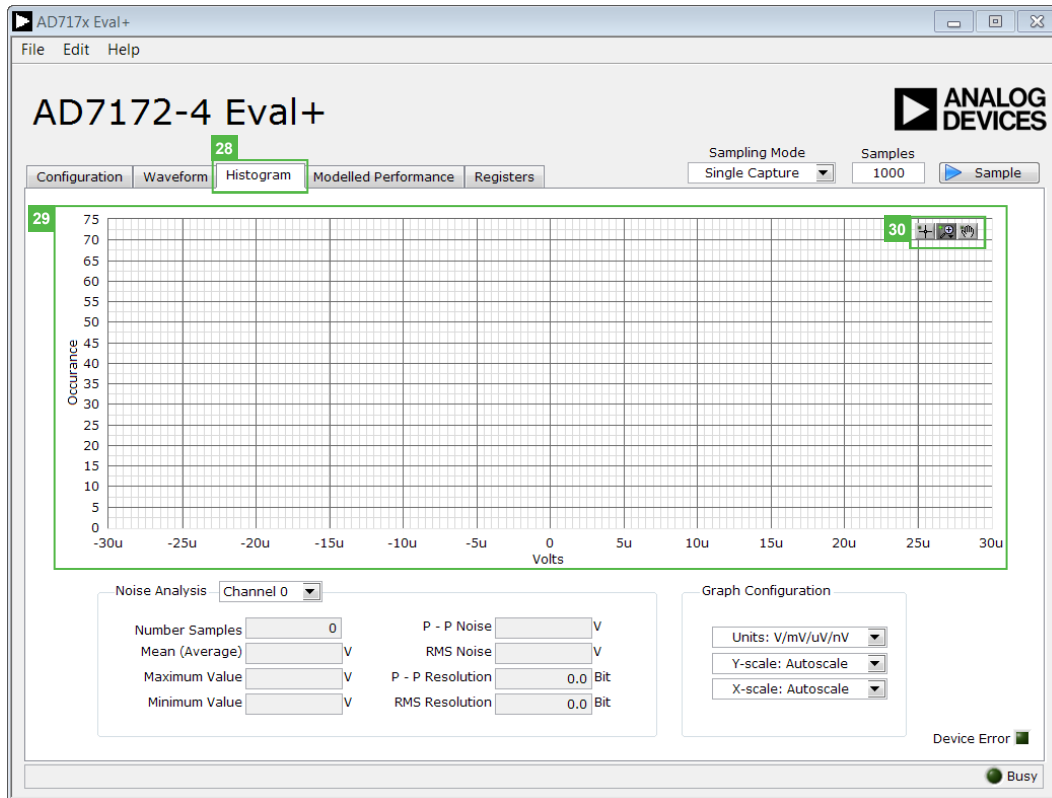

Figure 18. Histogram Tab of the AD7172-4 Evaluation Software
Figure 18 shows the **Histogram** tab of the AD717x Eval+ software.
The data histogram graph (20) shows the number of times each sample of the ADC output occurs. The control toolbar (21) in the histogram graph allows you to zoom in on the data (see Figure 18). Click the x-axis and y-axis to change the scales on the graph (see Figure 18).